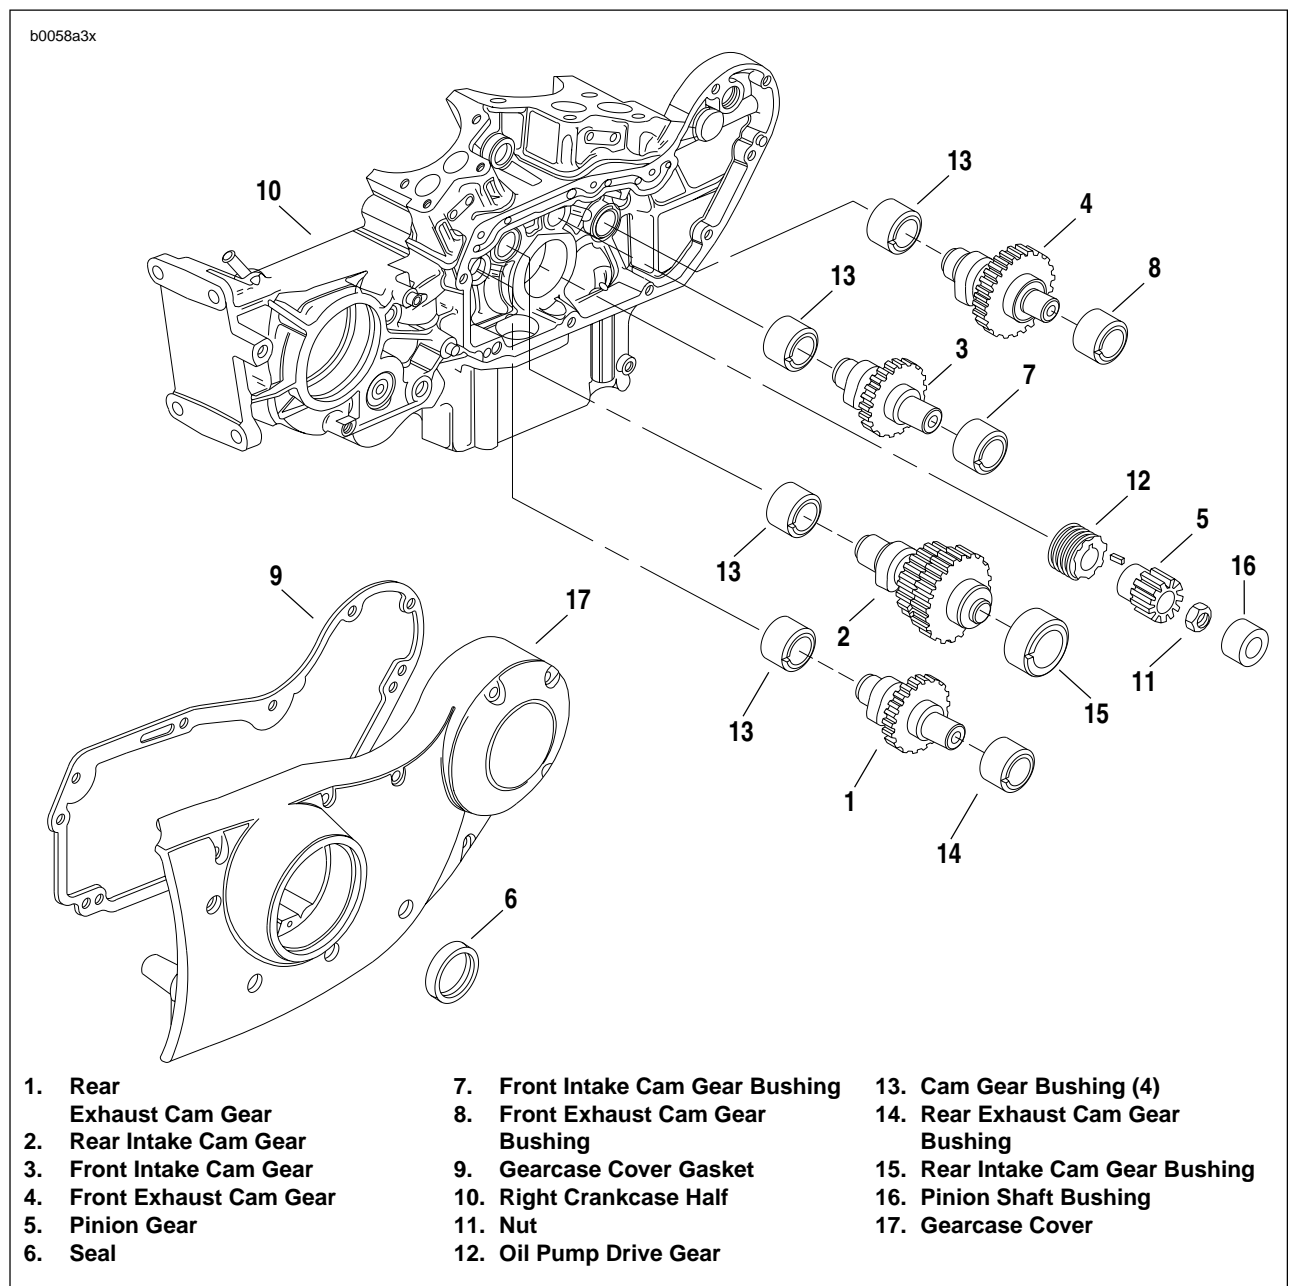

Figure 3-59. Gearcase and Valve Train Components
1. See Figure 3-59. Thoroughly clean area around gearcase cover (17) and lifters. Blow loose dirt from crankcase with compressed air.
7. Place a pan under gearcase to collect oil. Remove cover screws. Carefully remove gearcase cover. Discard old gasket (9).
1. See Figure 3-59. Bushings (7, 8, 13, 14, 15 and 16) are press fit in gearcase cover (17) and crankcase. Inspect each bushing against its corresponding cam gear shaft or pinion gear shaft. See Table 3-9.
1. See Figure 3-59. Using an arbor press, install each bushing (7, 8 and 14) in its gearcase cover (17) bore so that bushing shoulder contacts cover boss. Orient each bushing so the oiling slot is at the 9 o'clock position within the gearcase cover bore.
1. See Figure 3-59. Rear intake cam gear bushing (15) must be installed in its gearcase cover (17) bore using an arbor press. You will need to orient the bushing in a specific position of rotation within the cover bore, and will need to drill a lubrication hole in the bushing, according to the following procedures.
1. See Figure 3-59. Using an arbor press, install pinion shaft bushing (16) in its gearcase cover (17) so that bushing is flush with cover boss. There is no need to orient this particular bushing in any specific position of rotation within the gearcase cover bore.
1. See Figure 3-59. Bushings (7, 8 and 14) to be reamed must be installed in gearcase cover (17) as described in BUSHING INSTALLATION. Attach gearcase cover to right crankcase half (10), which has been disassembled from left crankcase half, securing with a minimum of three mounting screws.
2. Insert a standard 11/16 in. diameter reamer through the previously reamed cam gear bushing (13) in right crankcase half, which is in line with one of the bushings to be reamed in gearcase cover.
1. See Figure 3-59. Rear intake cam gear bushing (15) must be installed in gearcase cover (17) as described in BUSHING INSTALLATION.
2. Identify the previously reamed rear intake cam gear bushing (13) in right crankcase half (10), which has been disassembled from left crankcase half. Insert the shank end of REAR INTAKE CAMSHAFT BUSHING REAMER (Part No. HD-94803-67) through gearcase side of this bushing.
1. See Figure 3-59. Pinion shaft bushing (16) must be installed in gearcase cover (17) as described in BUSHING INSTALLATION. Attach gearcase cover to right crankcase half (10), which has been disassembled from left crankcase half, securing with a minimum of three mounting screws.